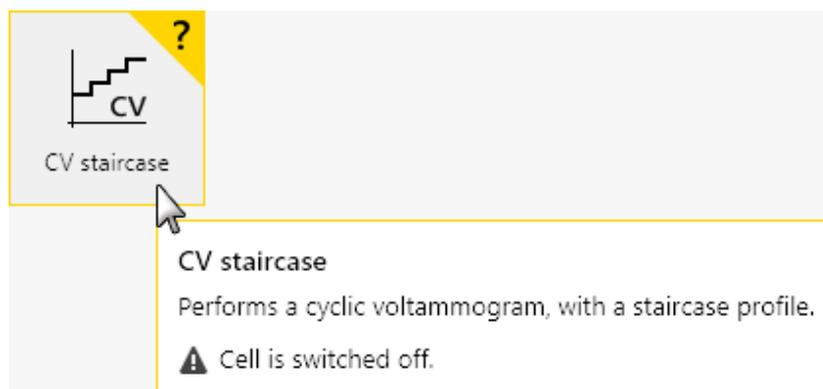

Figure 13 Warnings are highlighted in yellow
- **Warning:** any item highlighted in yellow indicates that an issue has been identified and that user intervention is recommended in order to resolve the issue (see Figure 13, page 19). Whenever possible, the cause and a possible solution will be offered. It is possible to ignore the warning and continue working with the software however this may lead to invalid data.